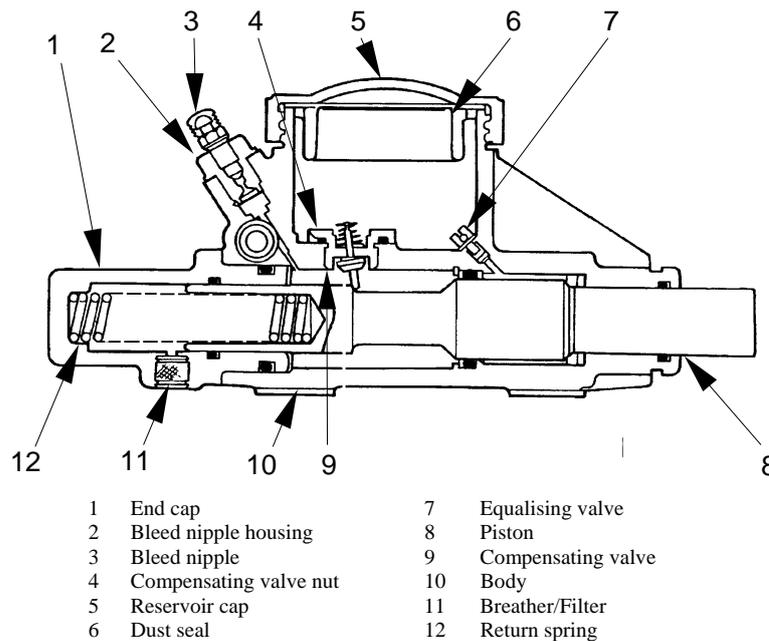

Figure 4 Brake Master Cylinder – Sectional View
9. Master Cylinder. The master cylinder is a Cebco model C500 (Figure 4). The master cylinder is fitted with an electric solenoid that locks the master cylinder out unless the towing vehicle's brake lights are activated. This lockout is incorporated to prevent undesirable brake applications.